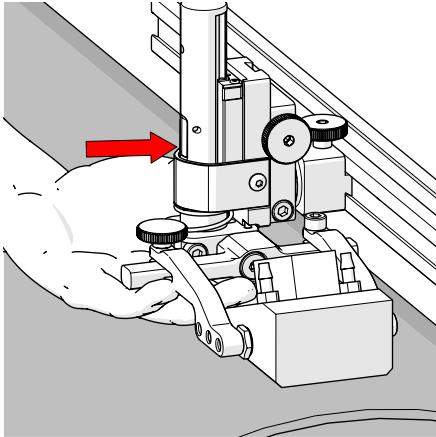
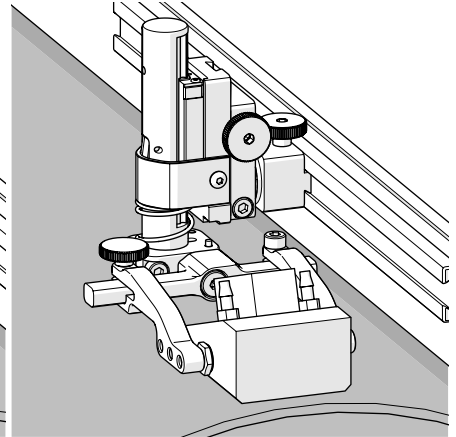

Fig. 171 - Press latch button
Fig. 172 - Lower toward scan surface
4. Lift the yoke slightly and press the latch button (Fig. 171), then slowly lower towards scanning surface to apply spring pressure to the wedge (Fig. 172).